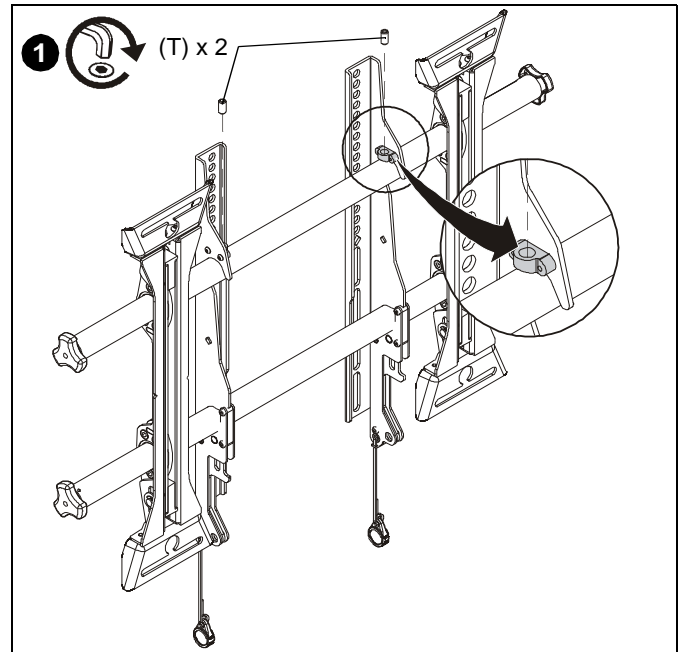

Figure 18
1. Lock screen interface brackets onto mount rails using one 3/8-16 x 3/4" set screw (T) on each interface bracket. (See Figure 18)